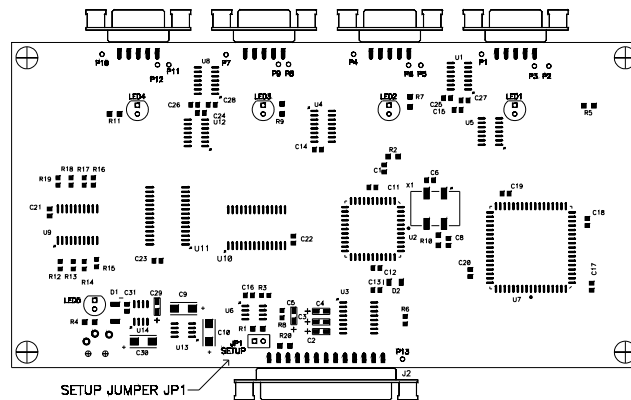

Figure 4.1 Setup Jumper Location
Remove the screws (4) on the bottom of the 232BSS4 with a Phillips screwdriver. Remove the top cover. Install the setup jumper marked JP1. See Figure 4.1 for a diagram of the PCBD. Power up the 232BSS4 with the setup jumper installed to put the switch in setup mode. The setup software can not recognize the switch if the setup jumper is not installed or if the jumper is installed after the unit is powered up. Remove the setup jumper when configuration is complete to put the 232BSS4 in normal operating mode.